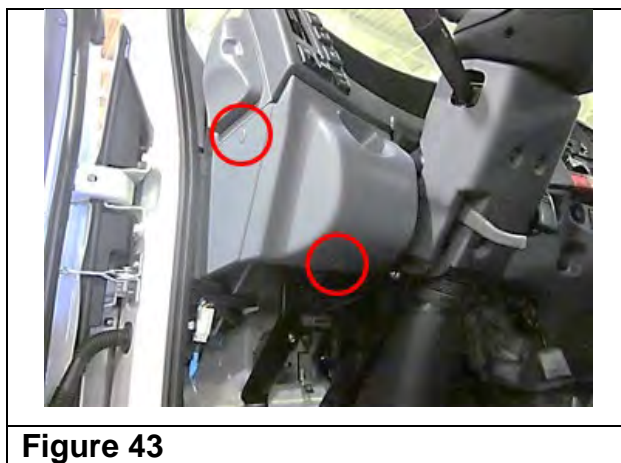

Figure 43
47. Remove the driver side instrument side cover. (See Figure 43.)